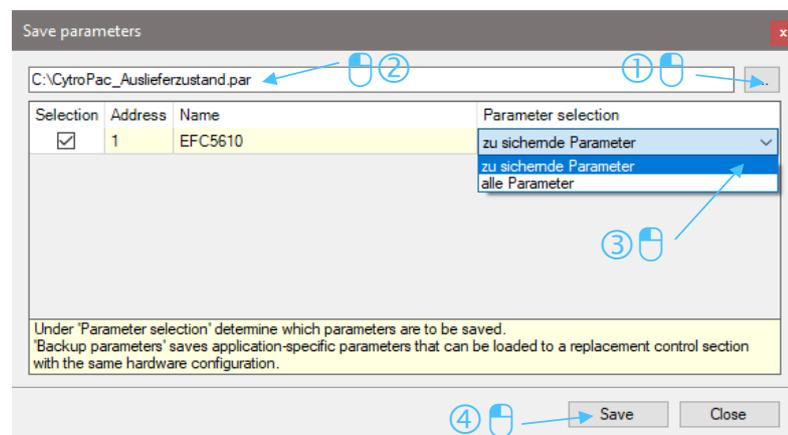

Abb. 8: Save parameters window
- ▶ Now, select a path and assign a name for the parameter file. You can save all parameters or the backup parameters (see Abb. 8: Save parameters window).